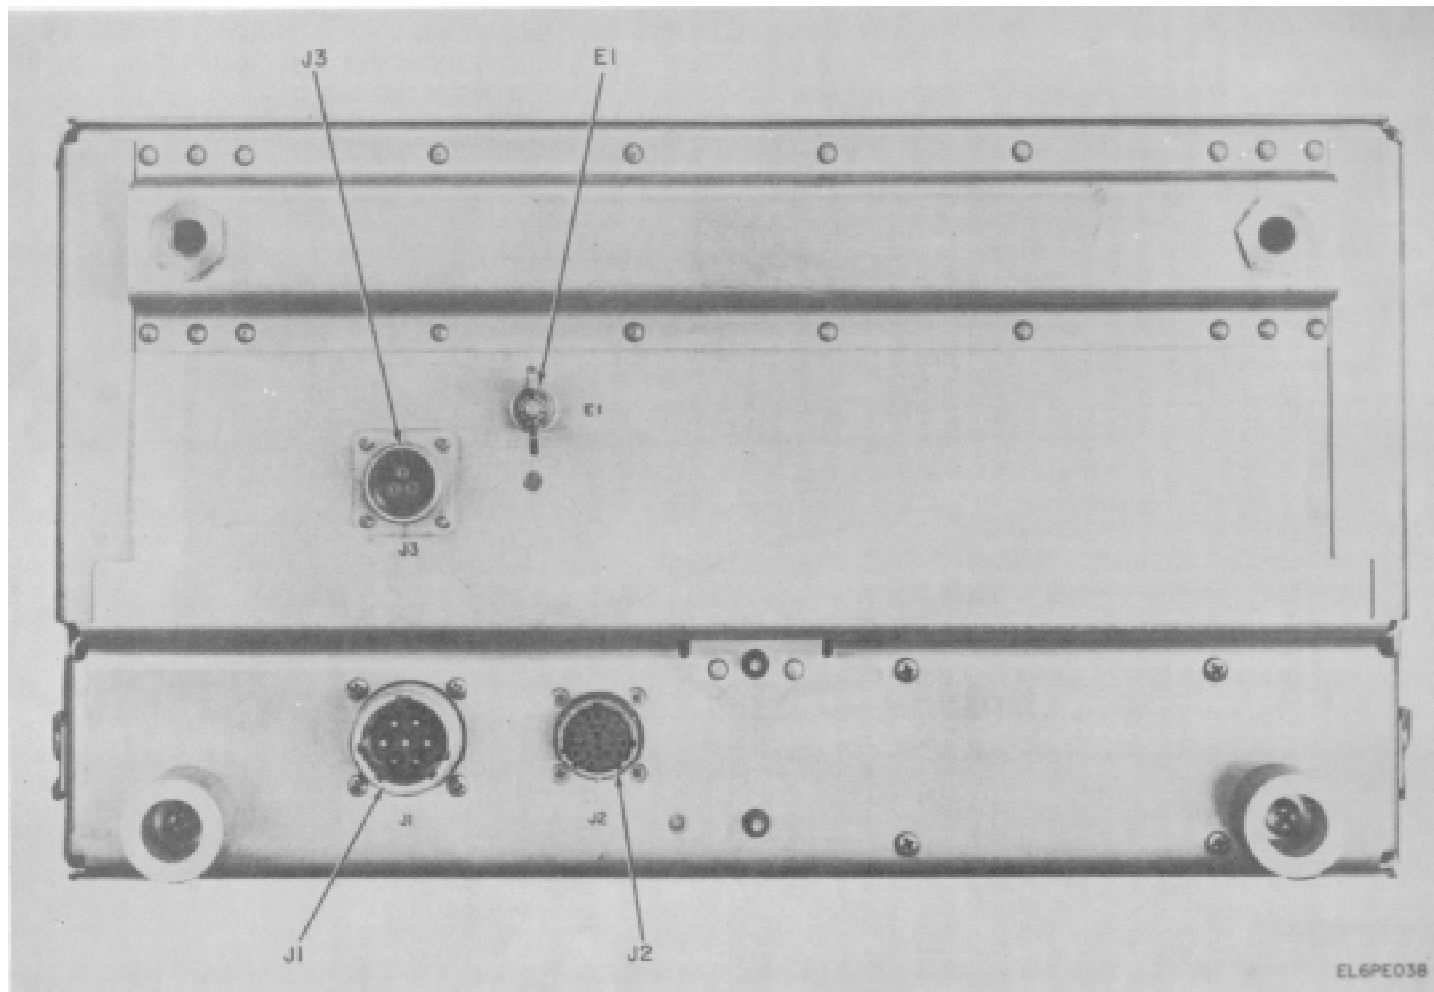

Figure 5-12. Power supply, rear panel.
e. On the rear panel remove three cables from connectors J1, J2, and J3 and the ground wire from terminal E1 (fig. 5-12).